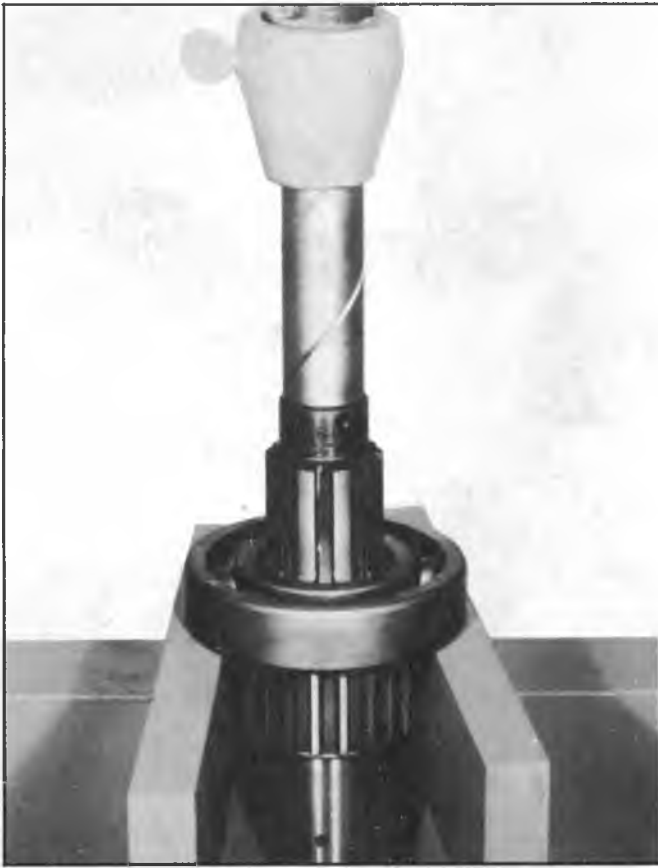

Fig. 16M--Removing Input Shaft Bearing
- b. Start new oil seal straight in counterbore with lips of seal facing up and, using Tool J-8477 as shown in Figure 16M, press seal into position.